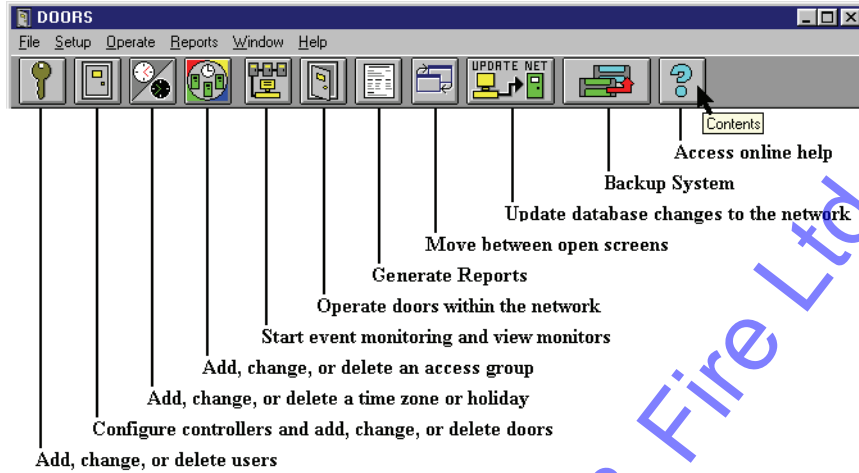

Figure 1-14: The Tool Bar
3. **Tool Bar** – The tool bar is a set of tool buttons for the most used functions in the *Doors* program. Clicking on a tool button immediately opens a function's window. A summary of what functions are available on the tool bar appears in Figure 1-14 on page 22 of this section. If you have a window opened or minimized, the tool button will be greyed out and clicking on it will have no effect.
The tool bar is a collection of tool buttons for the most used functions in the *Doors* program (see Figure 1-14). Clicking on a tool button immediately opens a function's window. Placing the mouse cursor on top of a tool button displays the name of that button beside the mouse cursor.